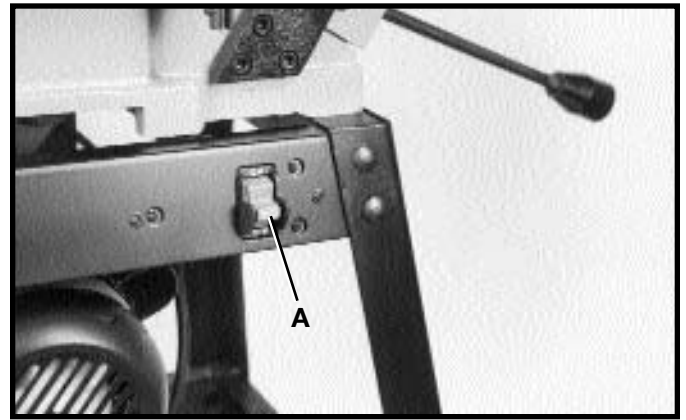

Fig. 33
The on/off switch (A) Fig. 33, is located on the top side brace of the stand. To turn the machine “ON,” move the switch (A) to the up position. To turn the machine “OFF,” move the switch (A) to the down position.